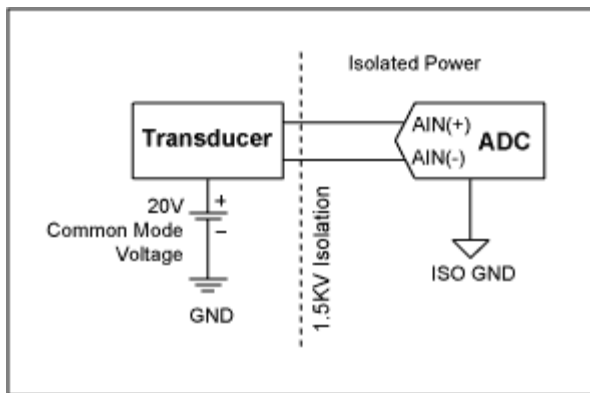

Figure 5. High common-mode voltage with a separate system power supply.
**Figure 5** shows the same system, but using a separate power supply with galvanically isolated grounds.  $R_{Bias}$  biases the inputs to  $V_{REF}/2$  to minimize drift due to leakage currents. As long as isolation between the grounds exists, the ADC only sees the differential voltage between AIN(+) and AIN(-), thus the